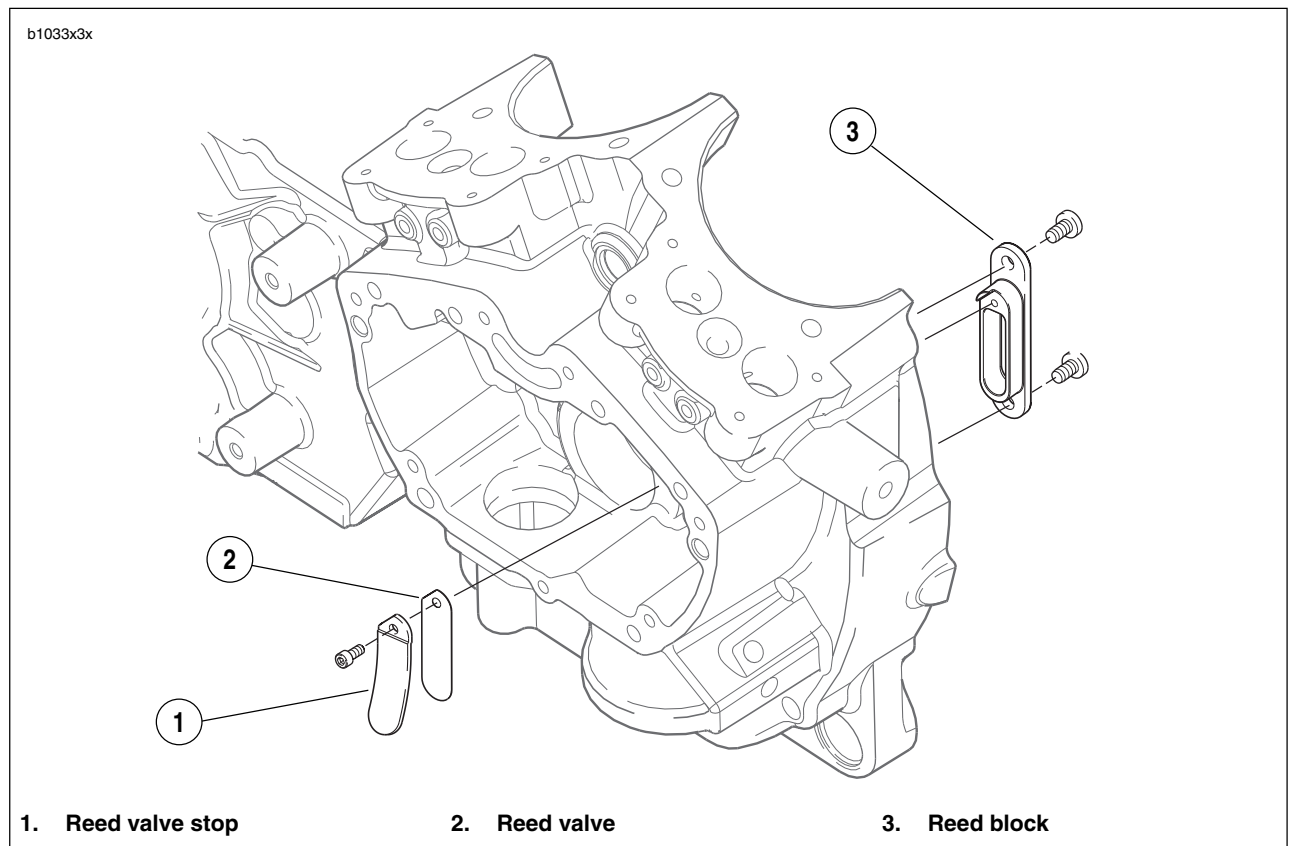
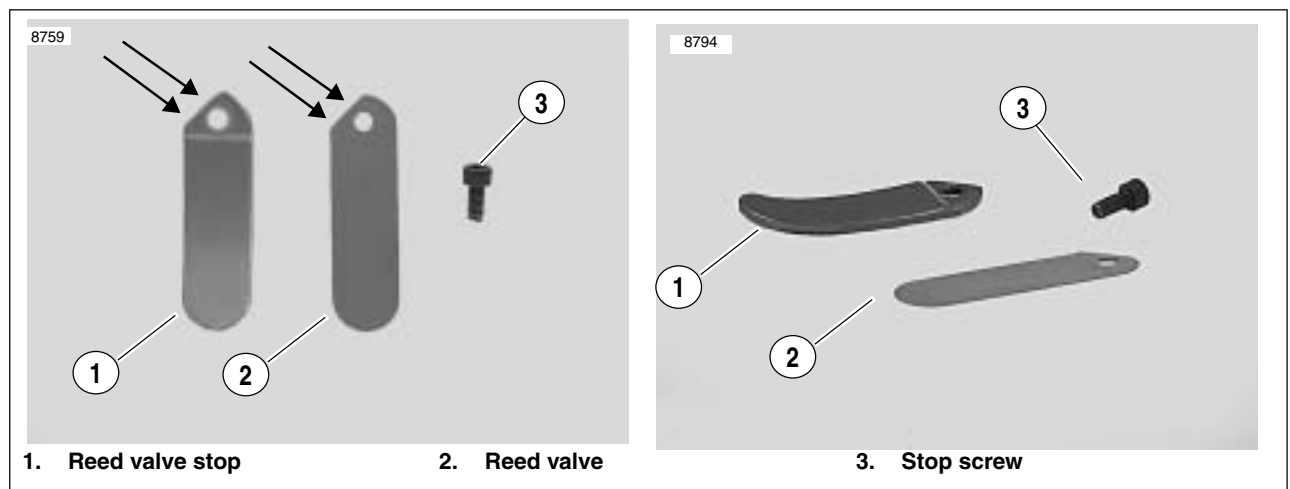

Figure 3-116. Reed Valve Assembly
Figure 3-117. Reed Valve Stop and Reed Valve
- See *Figure 3-117*. The reed valve (2) is what moves out with the downstroke and in with the upstroke of the pistons. The reed valve stop (1) limits the movement the reed valve (2). See *3.12 CRANKCASE BREATHING SYSTEM*.
See *Figure 3-117*. When replacing the reed valve it is extremely important to ensure that both edges of the reed valve stop (1) and the reed valve (2) are properly aligned to prevent premature failure of the reed valve. When replacing the reed valve it is not necessary to replace the reed block. See *Figure 3-116*.